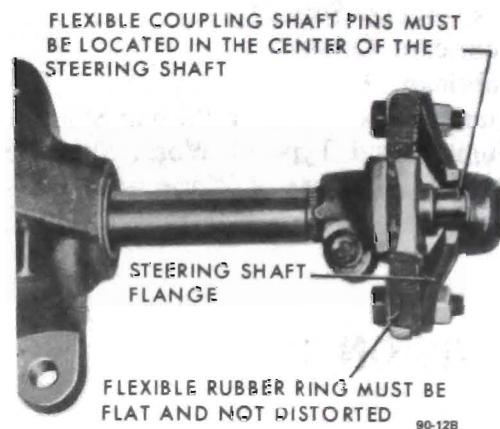

Figure 90-4 Steering Gear Flexible Coupling Installation
**NOTE:** Be sure to reinstall coupling flange so that tab on coupling flange is aligned with mark on gear stub shaft. See Figure 90-4.